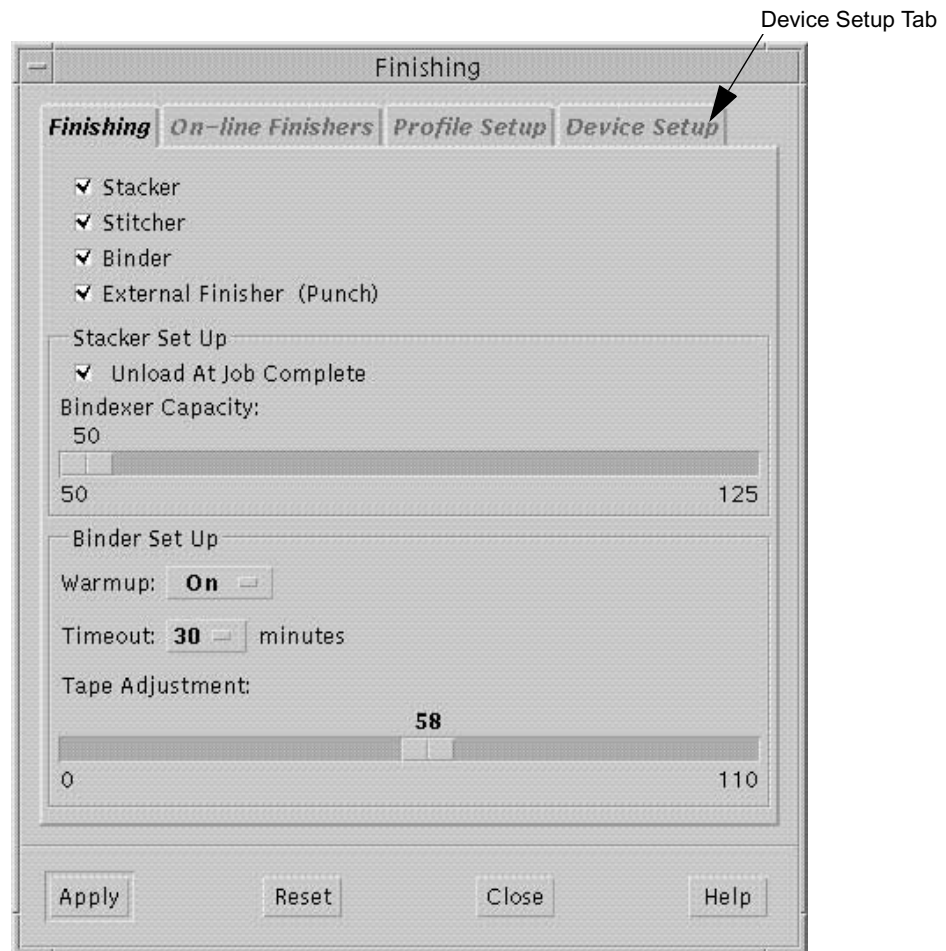

Figure 1-6: The Device Setup Tab in the Finishing Window
The Finishing Window will display, as shown in Figure 1-6.
- Click on the **Device Setup Tab**, as shown in Figure 1-6.